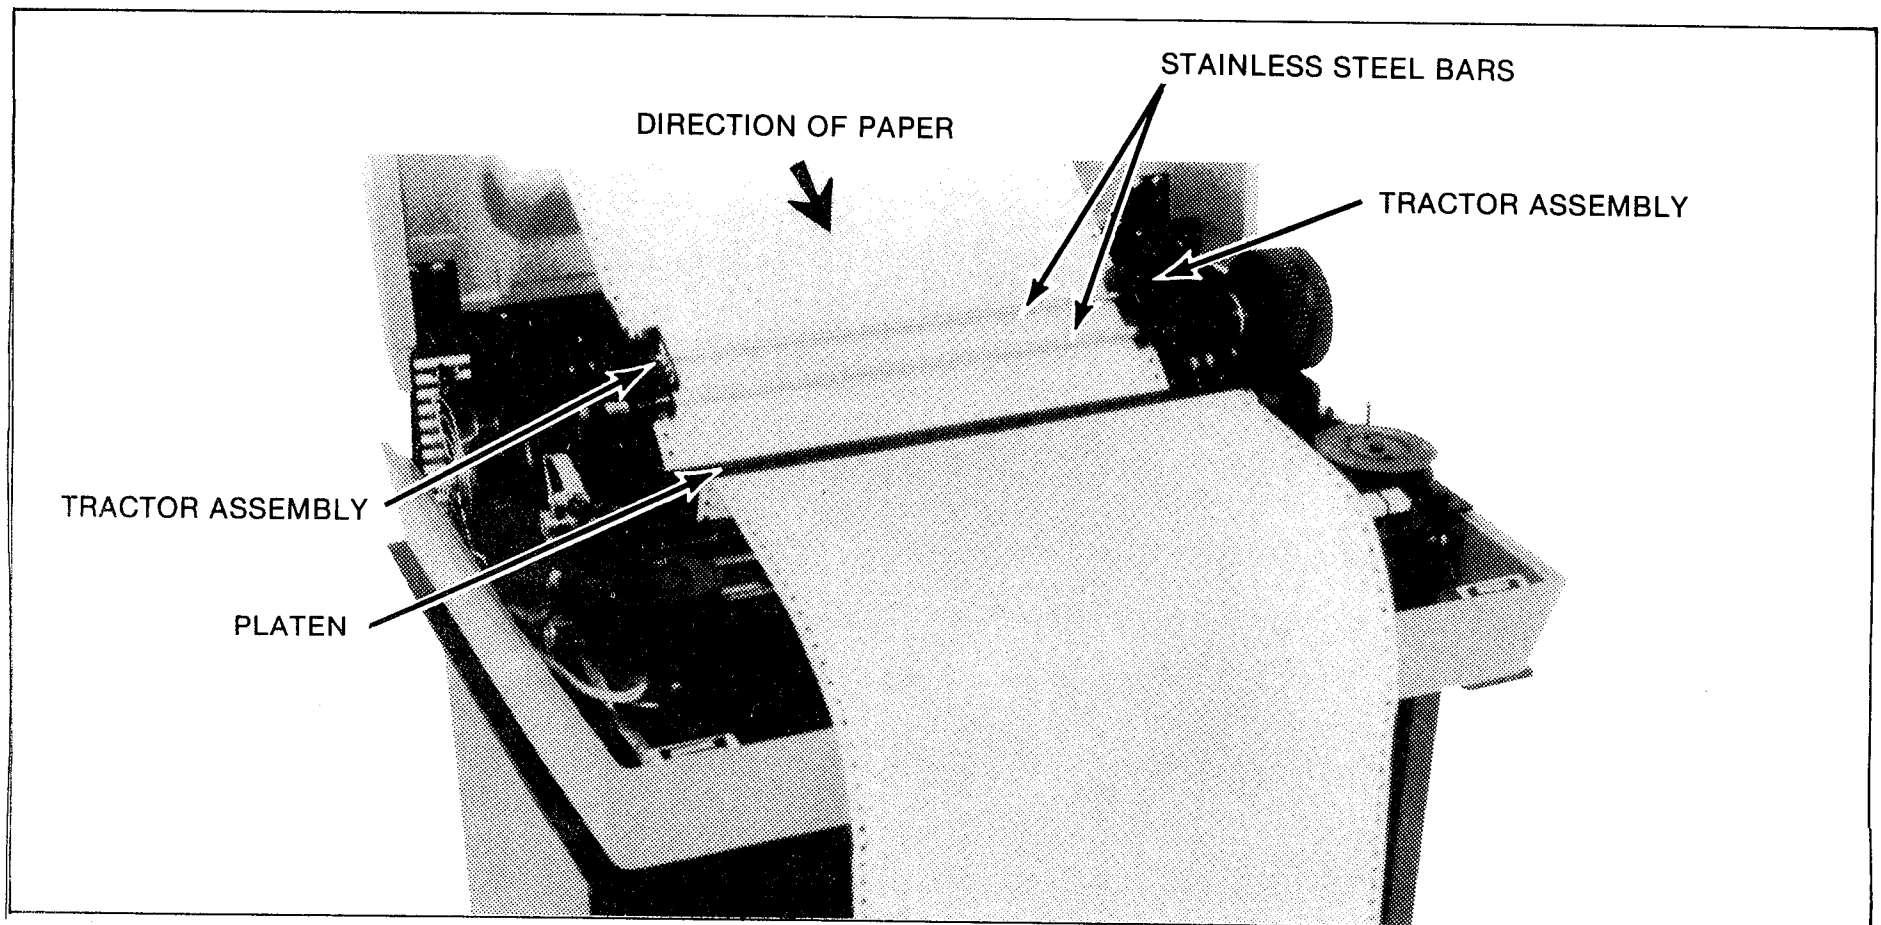

Figure 5. Threading Paper
- Thread the paper under two stainless steel bars, lower tractor assembly, and under the platen, allowing at least 18 inches of paper to extend past platen (Figure 5).